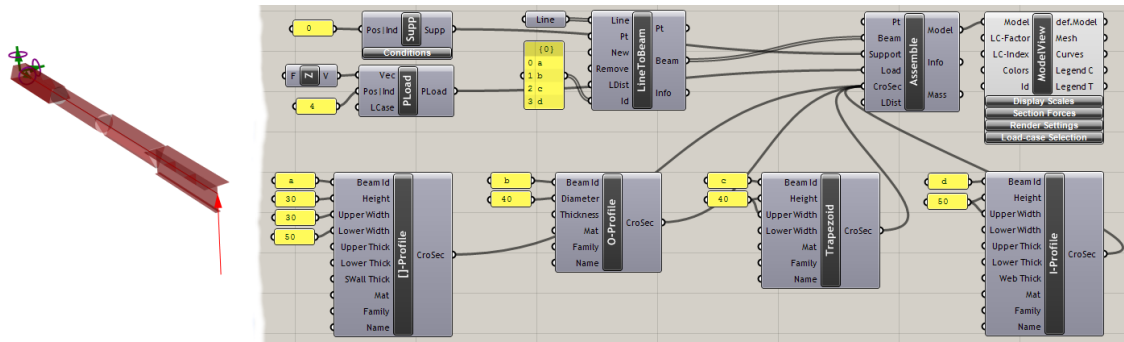

Figure 28: Cantilever with four different kinds of cross section.
- Alternatively cross sections can be defined as autonomous entities which may be plugged into the "Assemble" component (see fig. 28). They know about the beams they belong to by their "Beam Id" property: This is a list of strings containing beam identifiers or regular expressions. Upon assembly all beam identifiers are compared to all "Beam Id" entries of a cross section. In case of correspondence the cross section is attached to the beam. So this second method for attaching cross sections to beams overrules the first method.
Fig. 28 shows a cantilever with cross section properties defined by means of beam identifiers. The beam axis always coincides with the center of gravity of a cross section. Changing e.g the upper flange width of an I-section therefore results in a slight movement of the whole section in the local Z-direction.